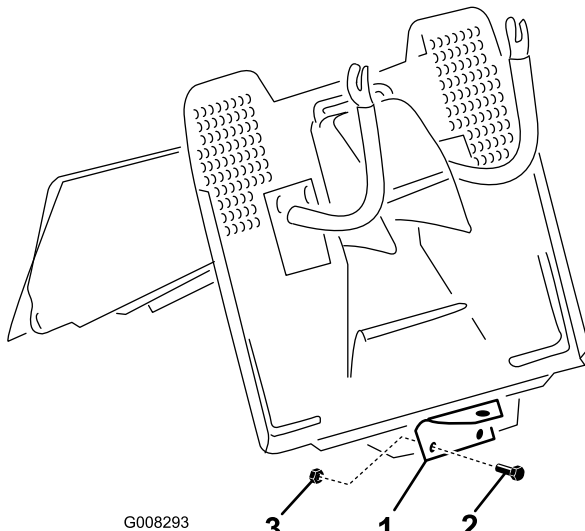

Figure 3
2. Attach the hitch with two bolts and nuts (Figure 3).